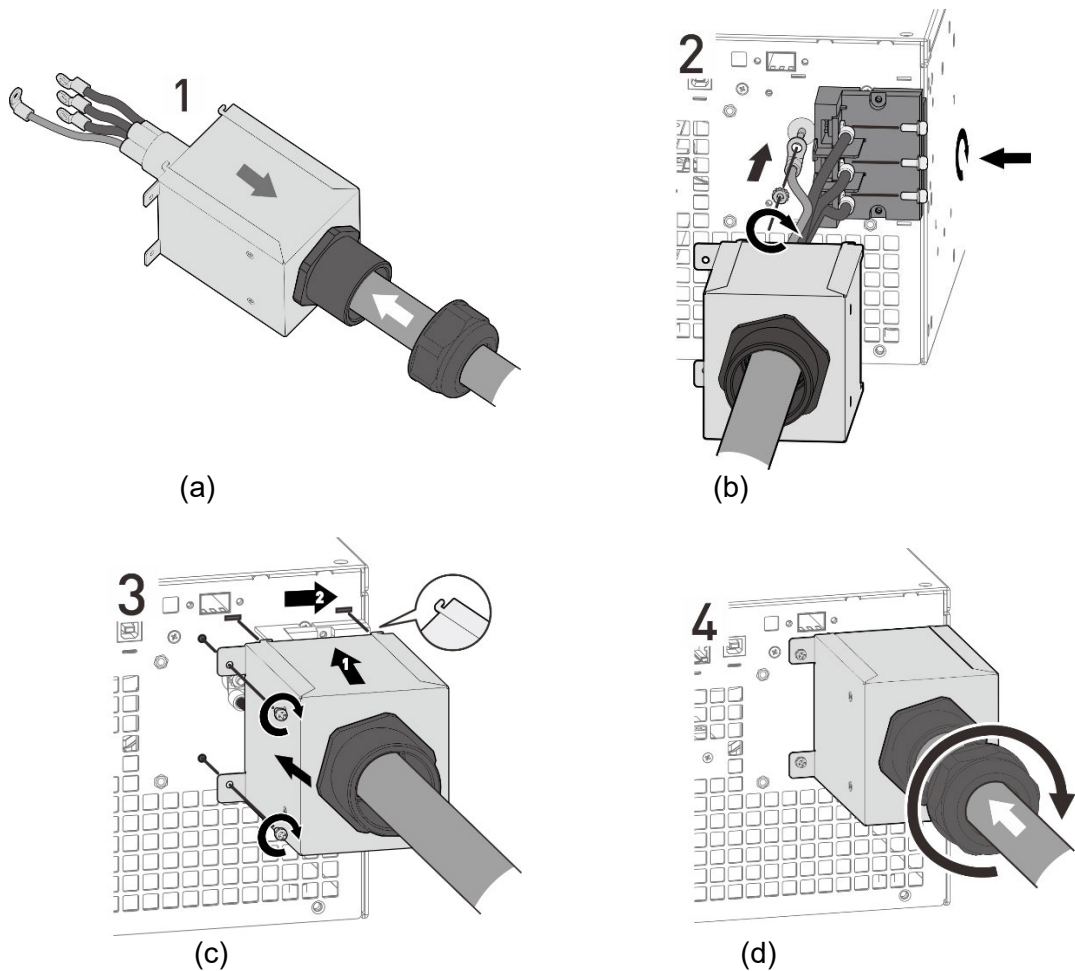

Figure 2-1
- (1) The input power connector is located at the right of the rear panel.
- (2) The power line must be rated at least 105°C.
- (3) The power cable width must be 6AWG at least.
- (4) Assembly ► see Figure 2-1 (a)~(d) and execute the following steps.